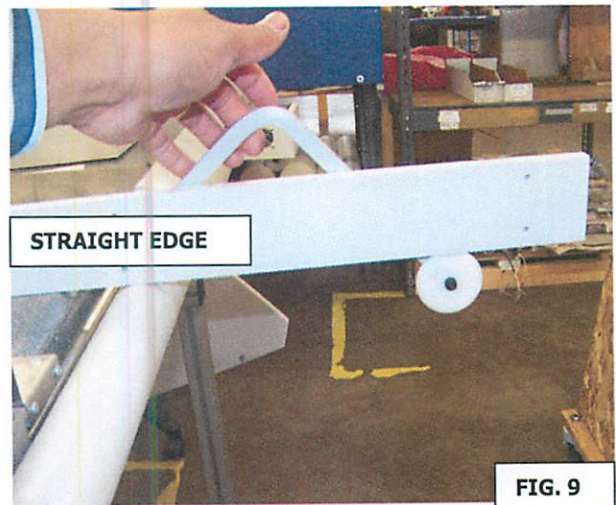

FIG. 9
**ARM AS SHOWN IN (FIG. 9), WHEN IN THIS**